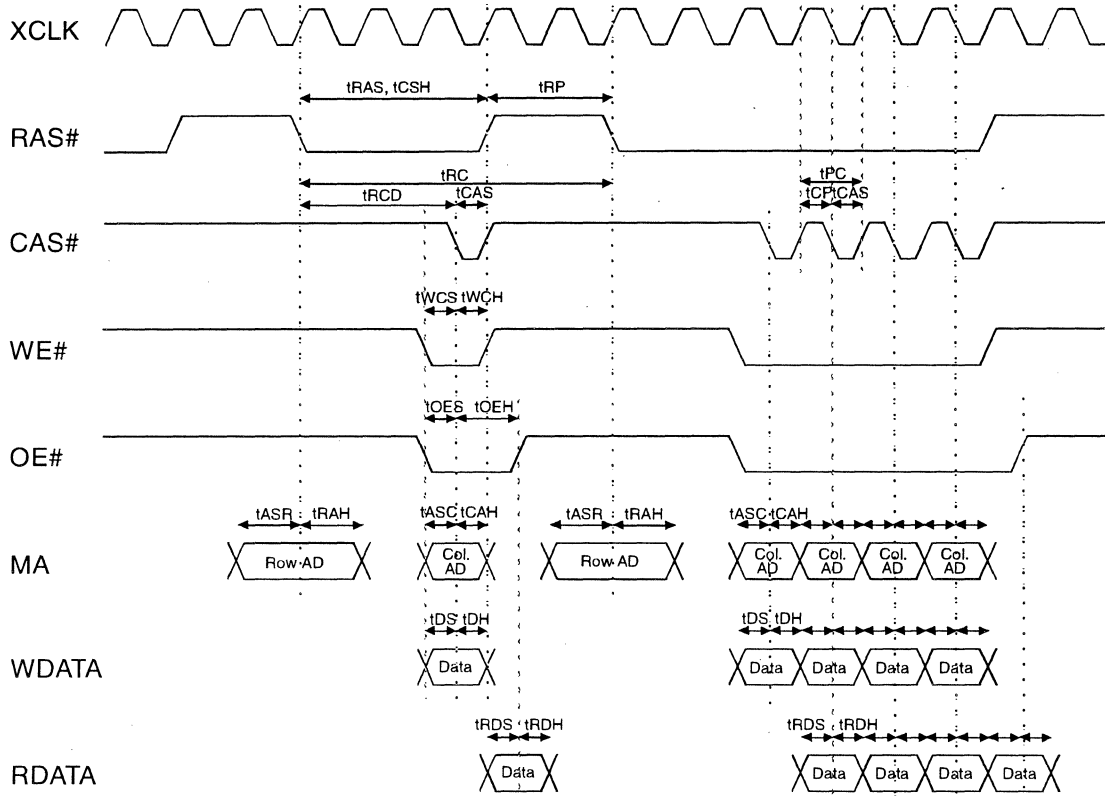

Figure 7-12. Hyperpage EDO DRAM Cycle Timing
- Hyperpage EDO DRAM Cycle Timing, see *Figure 7-12*